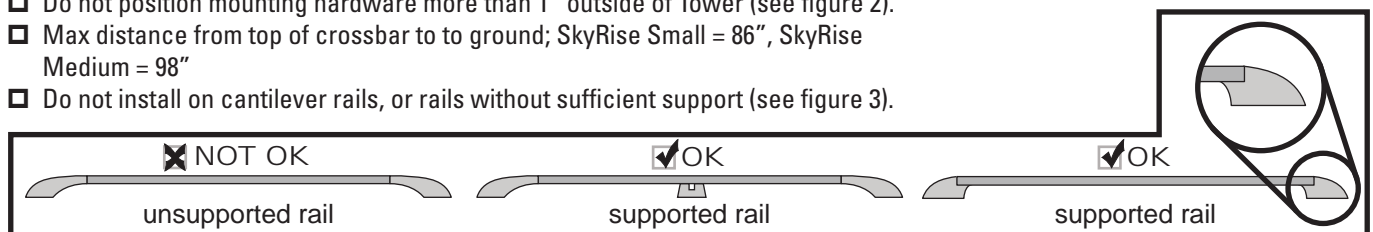

fig. 3
- Do not install on cantilever rails, or rails without sufficient support (see figure 3).